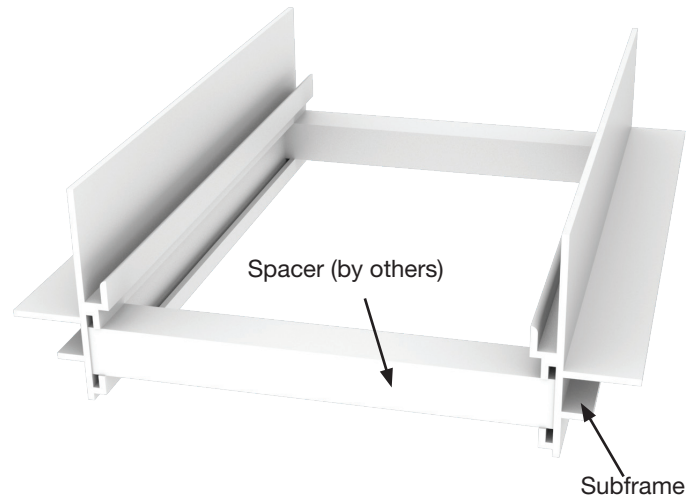

Figure 7 (Step 3B and 4A): Subframe Installed in Framing – Shown with Plenum/Duct (not required)
- B. Install and secure subframe provided in framing – see Figure 7. Note: sub end borders need to be cut to size and notched if used; they are not provided by the factory.
- A. Install drywall below framing, butted up against the lower section of the subframe – see Figure 7.